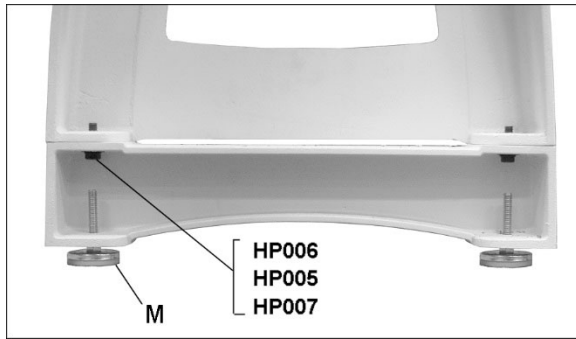

Figure 4: riser blocks and feet
See Figures 4 and 5.
2. Install adjustable feet into bottom of legs or riser blocks (Figure 4) and tighten hex nut against leg casting. The feet can be adjusted later.
6. Rotate adjustable feet (Figure 4) as needed to establish level for the lathe. Tighten hex nut on each foot against leg casting.